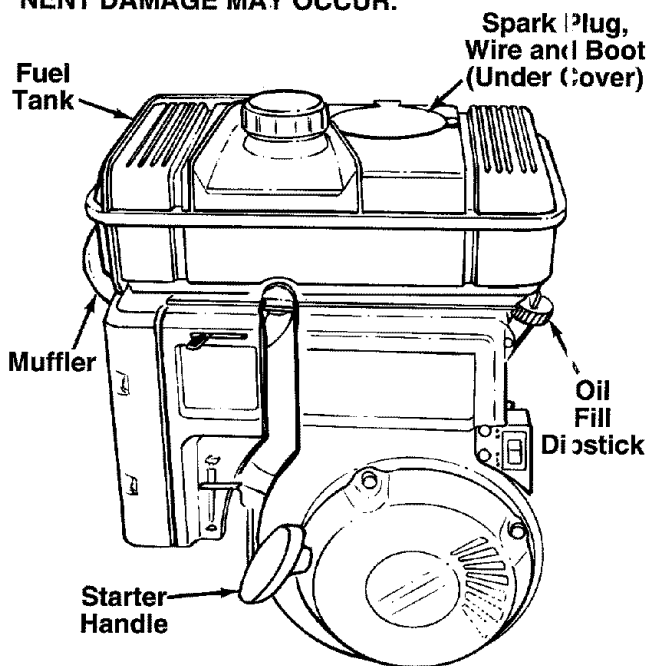

FIGURE 13.
**MAKE CERTAIN THE SPARK PLUG WIRE IS DISCONNECTED AND MOVED AWAY FROM THE SPARK PLUG BEFORE ASSEMBLING THE CHIPPER-SHREDDER. REFER TO FIGURE 13, PAGE 10.**
- Disconnect spark plug wire and move away from spark plug to prevent accidental starting while equipment is unattended. See figure 13.
- Open cover (on top of fuel tank) and attach spark plug wire and rubber boot to spark plug if necessary. Replace cover. See figure 13.
- Grasp starter handle (see figure 13) and pull rope out slowly until engine reaches start of compression cycle (rope will pull slightly harder at this point). Let the rope rewind slowly.